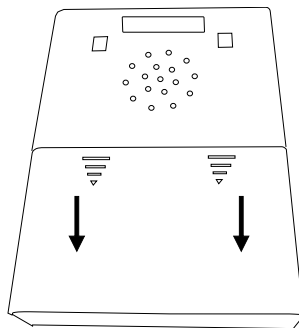

Figure 1: Battery compartment of the »signolux« receiver
- a) At the rear side there is a battery compartment the cover of which can carefully be pushed downwards so that the compartment opens (fig. 1).